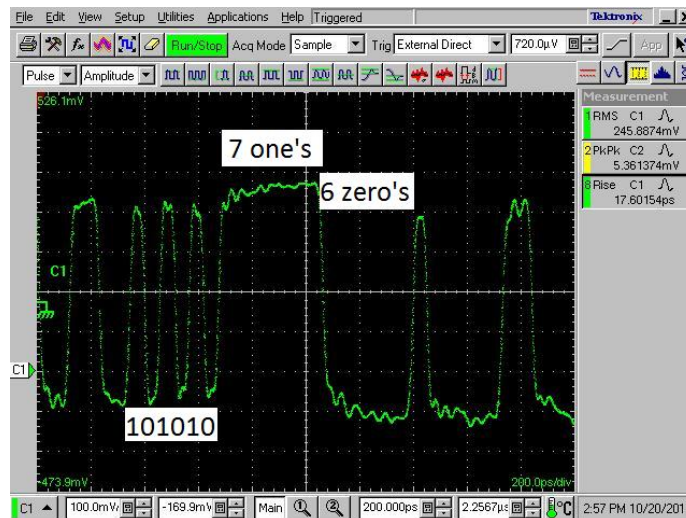

Figure 6. Correct PRBS7 pattern
- Adjust the Phase Adjust potentiometer in order to get the correct PRBS7 pattern as shown in **Figure 6**.